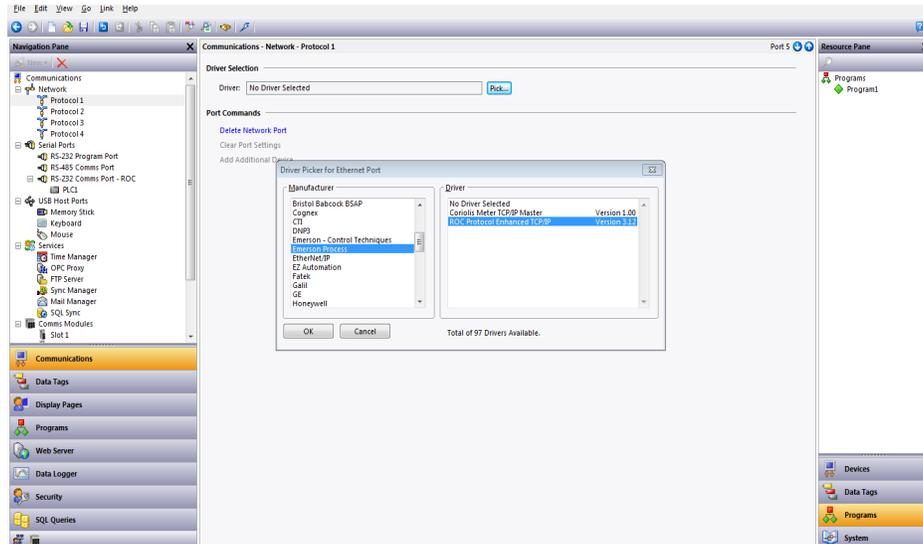

Figure 10.
- Referring to Figure 10, go to the Navigation Pane and click on one of the available protocols under Network; *Protocol 1* in this example. The Communications - Network - Protocol 1 popup appears.